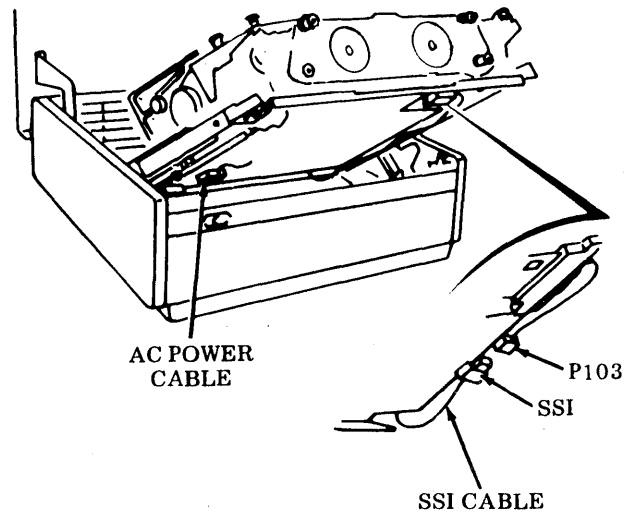

Fig. 18—Cable Connections
6.03 Connect ac power cable and SSI cable (Fig. 18).